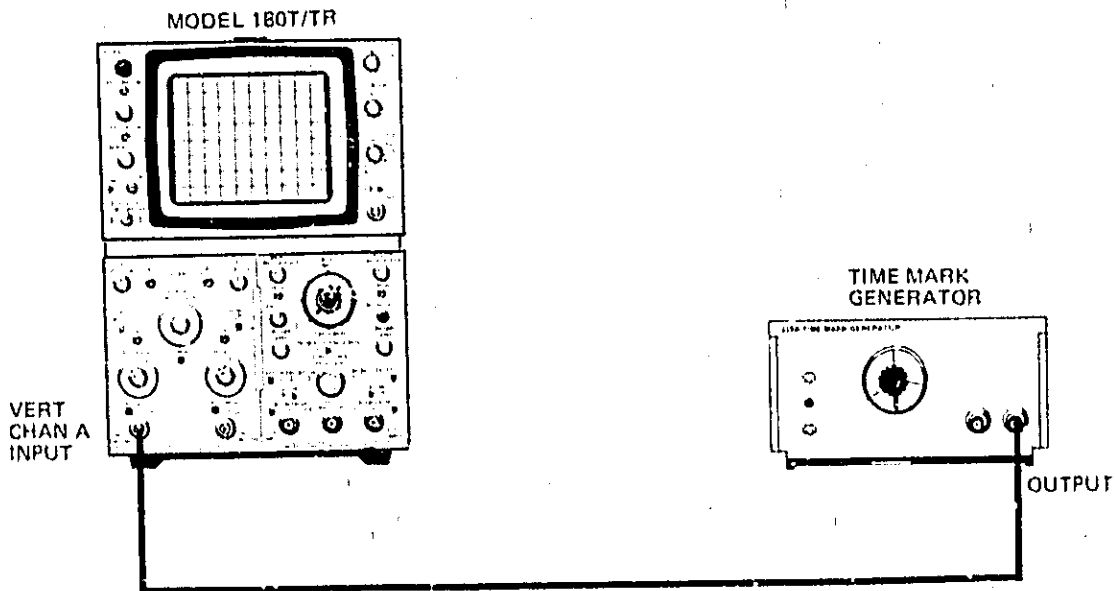

Figure 5-21. Horizontal Linearity Test Setup
- Connect 4-V p-p, 50-MHz sine-wave output from time-mark generator to vertical input (see figure 5-21).